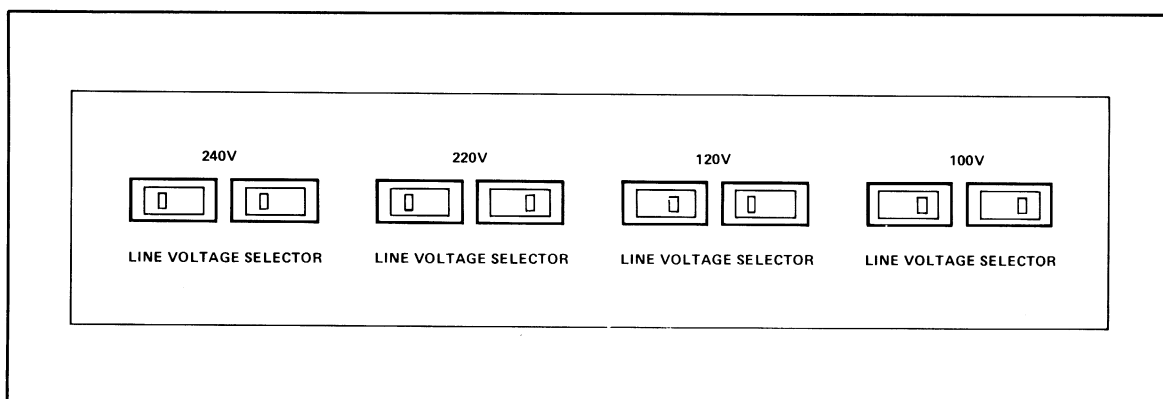

Figure 2-1. Line Voltage Selector Settings
- a. Using a small screwdriver, a pencil, or other suitable tool, align the notches of the **LINE VOLTAGE SELECTOR** switches with the markings on the rear panel that correspond to the desired operating voltage (see Figure 2-1).